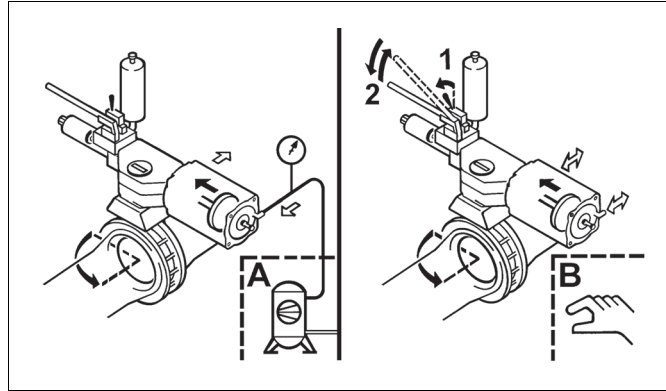

Fig. 13 Operating instructions plate, opening the valve
The actuator is fitted with an instructions plate as shown in Fig. 13. The actions required to open a valve in the closed position behind the actuator pneumatically by remote control are shown on the left-hand side (A) of the plate. The operation is automatic.
The actions required for manual control are illustrated on the right-hand (B) side of the instructions plate shown in Fig. 13.